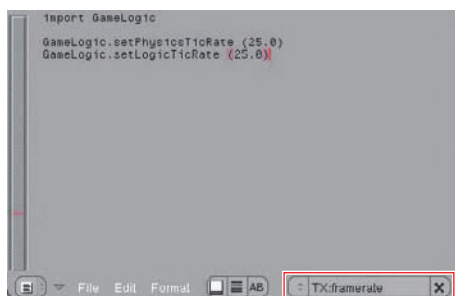

Figure 6.25 The framerate script
2. In the text area, type the following code, exactly as it is shown in Figure 6.25: